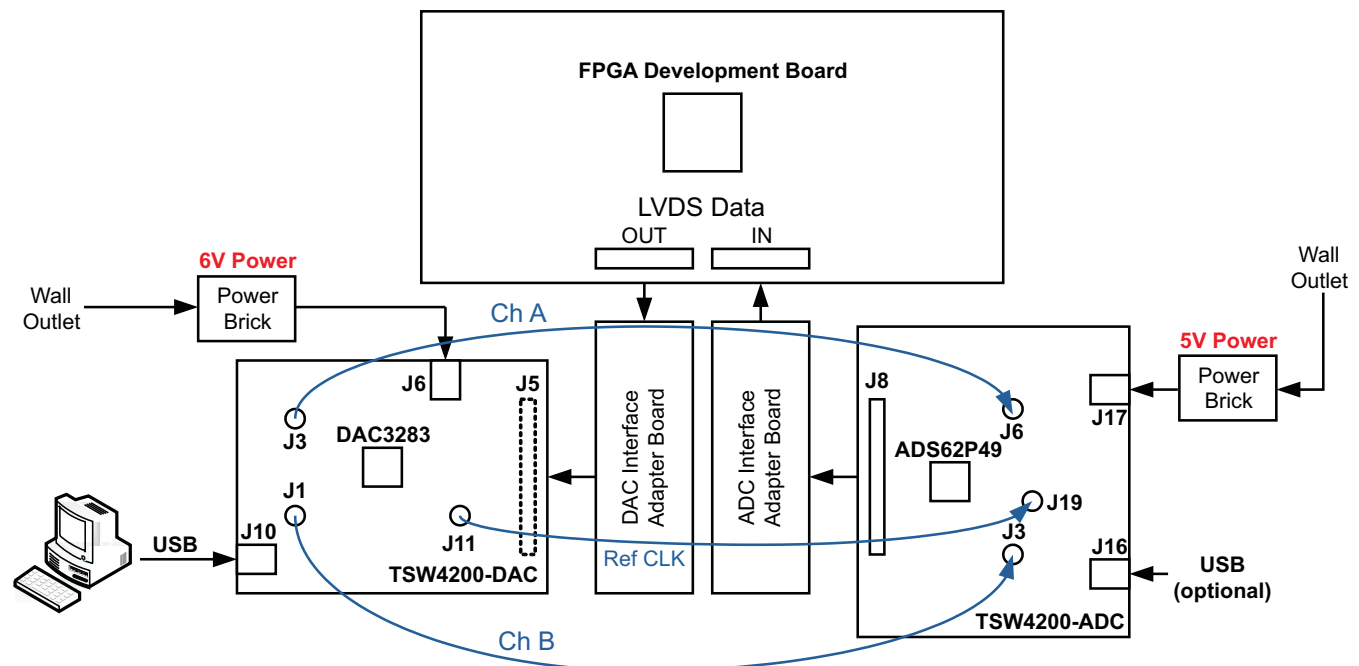

Figure 1. TSW4200 Demonstration Kit
Figure 1 shows the configurations of the TSW4200-DAC and TSW4200-ADC EVM with the FPGA development board. Section 3 covers the setup information of the EVMs.
5. Connect the DAC EVM output at J1 and J3 to the ADC EVM input at J3 and J6. See Figure 1 for details.